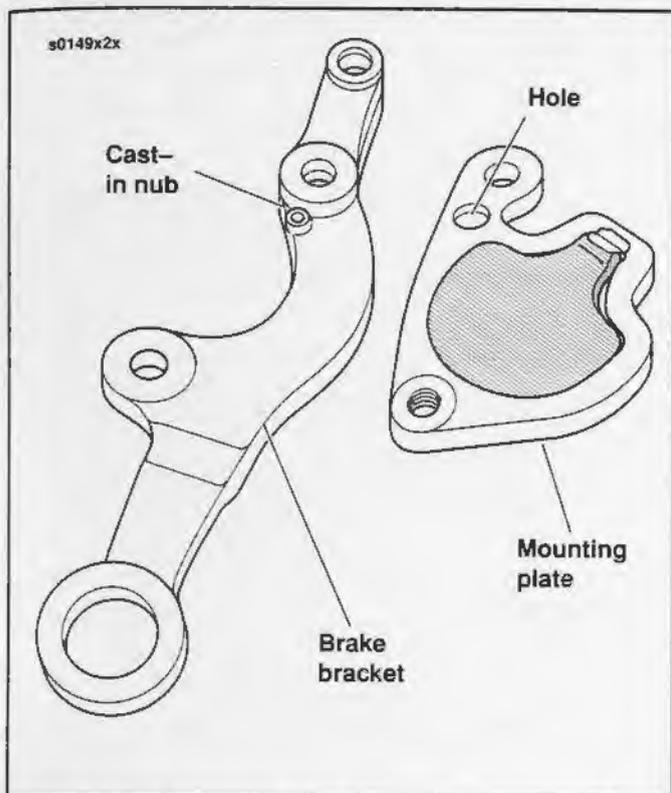

Figure 2-53. Springer Brake Bracket and Mounting Plate
See Figure 2-53. The Springer brake bracket has a cast-in nub that engages a hole in the mounting plate.
6. Insert the lower mounting bolt (6) through the caliper (2) and the bracket hole. See Figure 2-53. Thread it into the tapped hole at the lower end of mounting plate. Tighten lower mounting pin to 25-30 ft-lbs (34-41 Nm).
7. **1997 Models (12 pt. bolt):** Tighten upper mounting bolt (5) to 42-46 ft-lbs (57-62 Nm). Install washer and new spring pin (4).